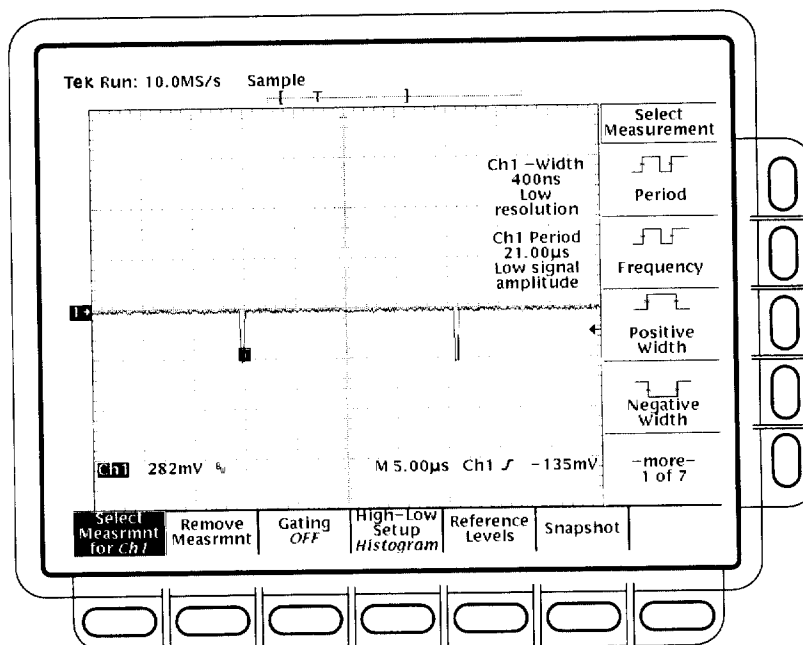

Figure 1-41: Sync duty cycle test: critically adjusted pulse
- Turn the pulse generator **PERIOD** variable control to adjust the period until the oscilloscope **CH1 Period** measurement reads **21.000µs -25/+50 ns**. See Figure 1-41. Read note shown below.